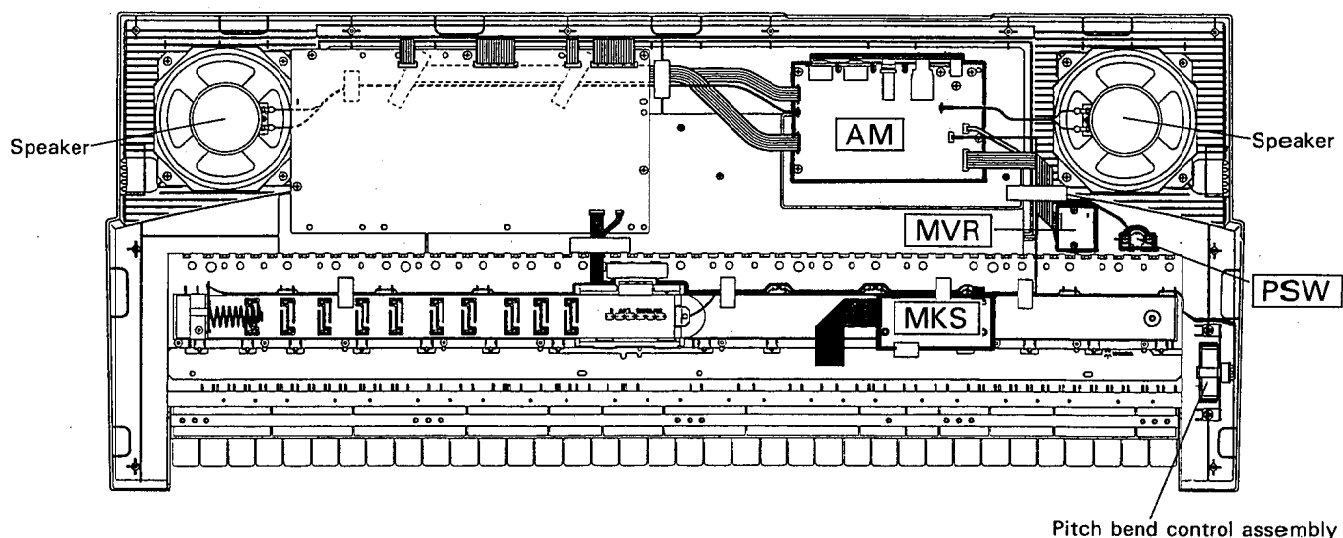

Fig. 2
* This will give you access to the circuit boards as shown in the figure 2.
- (1) AM circuit board
- (2) PSW circuit board
- (3) MVR circuit board
- (4) Speakers
- (5) Pitch bend control assembly
- (6) MKS circuit board
- 4-3. Remove the AM circuit board. (Fig. 2)